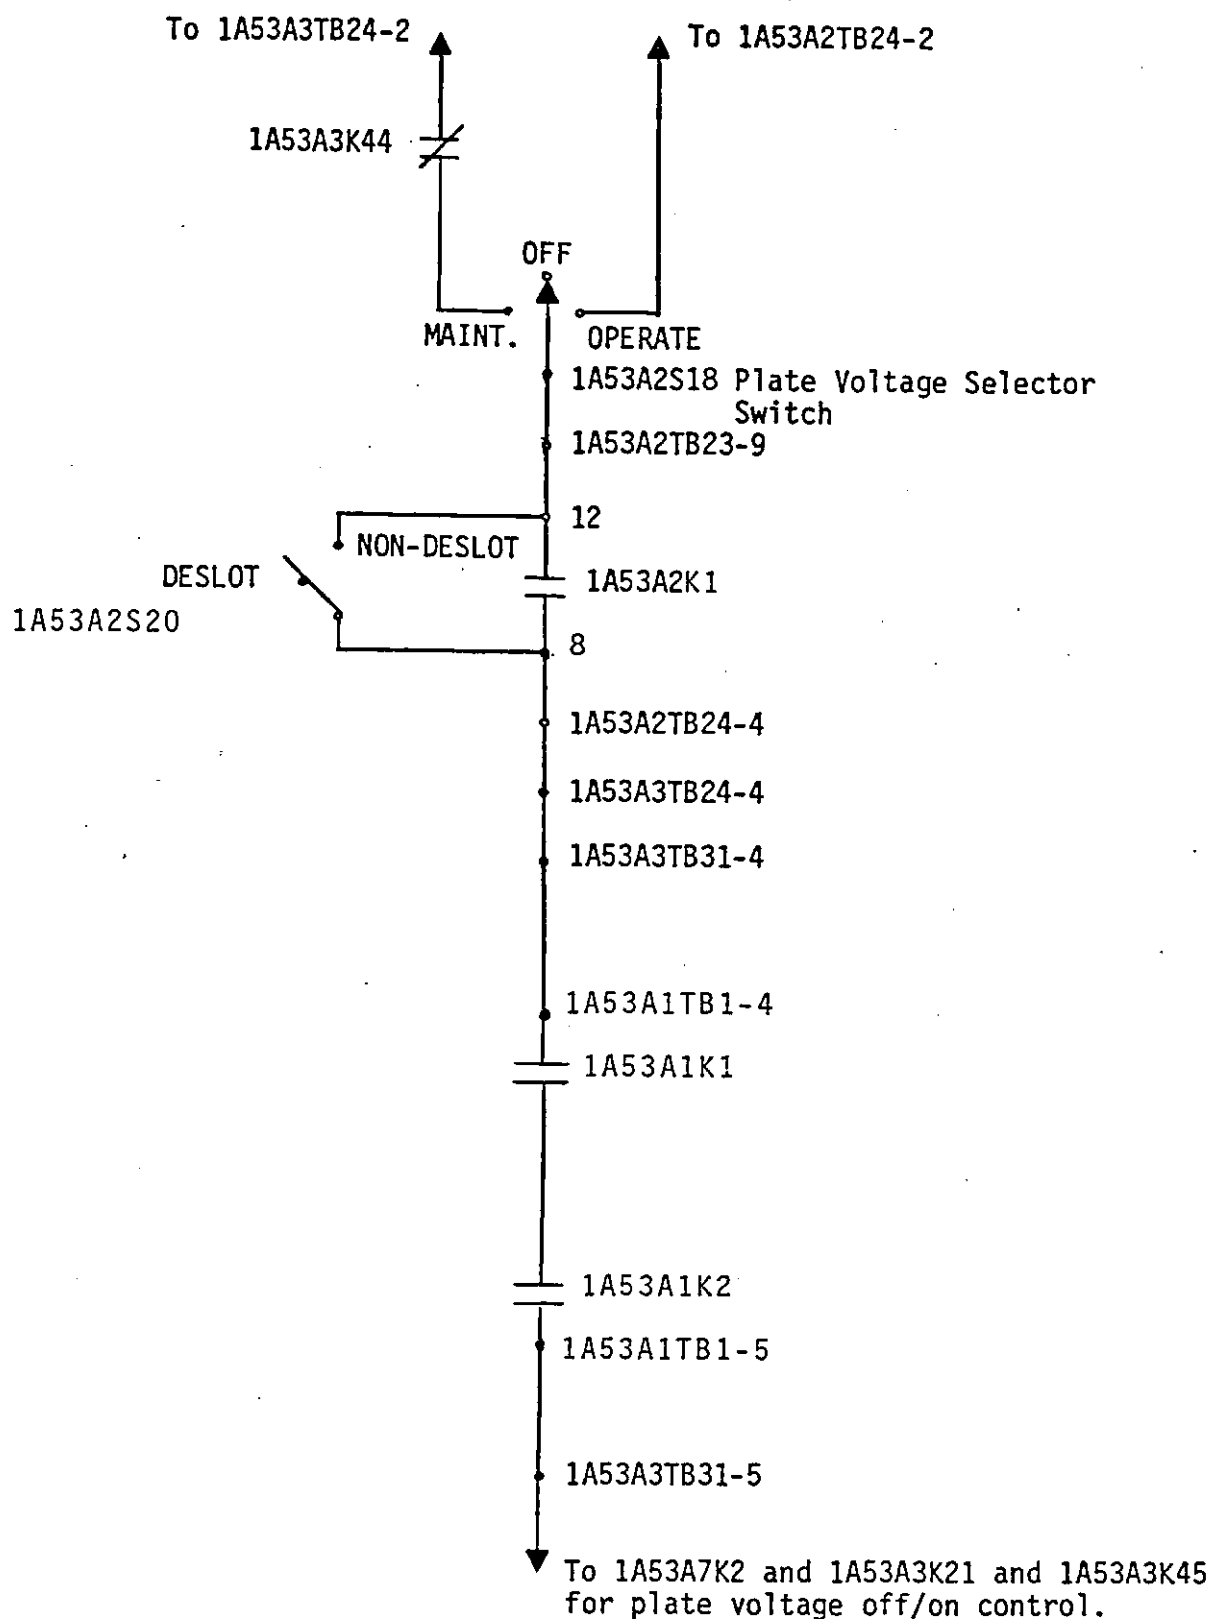

Figure 2. AN/FPN-44A DESLOT Modification For Plate Voltage Control
3. Page 3-11, figure 3-5, correct to show 1A53A2S20, DESLOT/NON-DESLOT selector. See enclosure (1) figure 2 of Field Change Bulletin.
7. Between page 3-22 and 4-1, insert the "DESLOT and NON-DESLOT operating instructions", attachment (1).
- b. Plate Voltage control (Figure 2 of schematic diagrams)